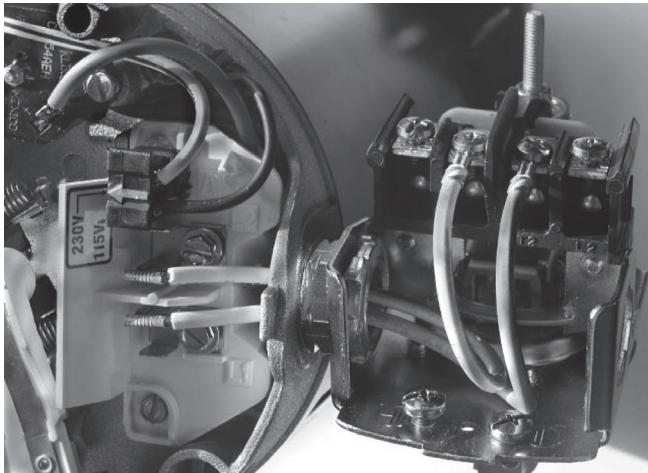

Figure 7: Voltage set to 230 volts, Plug Type
5. Attach the ground wire to one of the grounding connections, shown in Figure 7.
- 1. Connect the ground wire first as shown in Figure 7. The ground wire must be a solid copper wire at least as large as the power supply wires.
- 4. Connect the power supply wires to the pressure switch as shown in Figure 7.